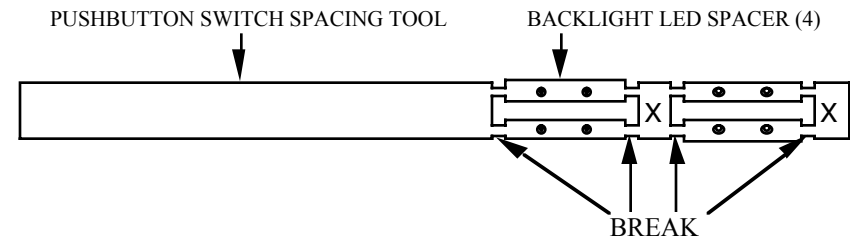

Figure 5-1
- Locate the Spacer Set (Figure 5-1). Using long-nose pliers, carefully break out the pushbutton switch spacing tool and the four backlight LED spacers. Break the material only at the eight narrow points. Discard the supporting pieces (marked X).